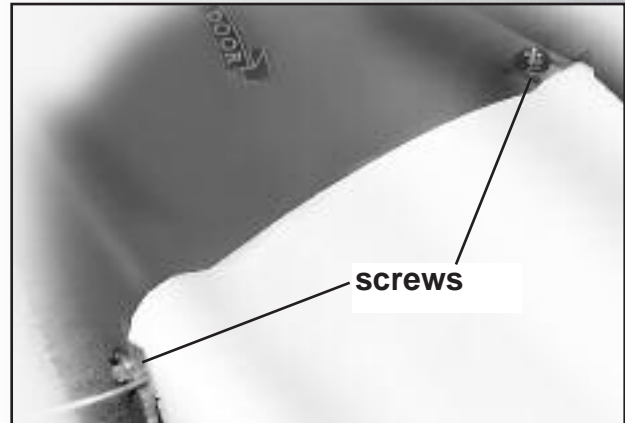

Fig. 6-1
3. Remove motor cover (Fig. 6-1).
2. Attach visor clip Fig. 6-1.